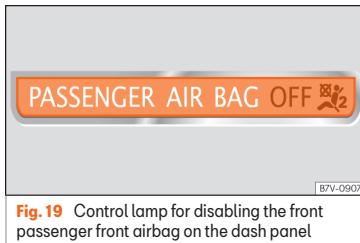

Fig. 19 Control lamp for disabling the front passenger front airbag on the dash panel
- When deactivating the airbag, switch the ignition on and check that the control lamp **OFF** ⚡ with the lettering **PASSENGER AIR BAG** remains lit in the middle of the dash panel » » » Fig. 19.